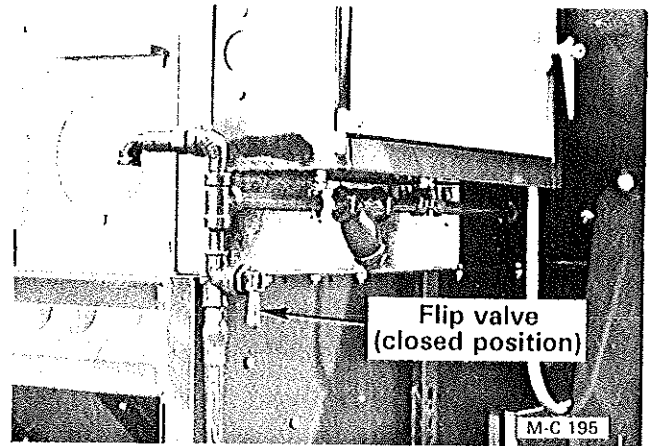

Figure 13
2. **LP Gas** - Close the liquid line flip valve (handle down), see Figure 13.
1. **LP Gas** - Open the supply valve at the tank, the hand valve at the LP Gas inlet hose and open (lift up) the liquid line flip valve, see Figure 13. The flip valve is open when the handle is 90° to the piping.